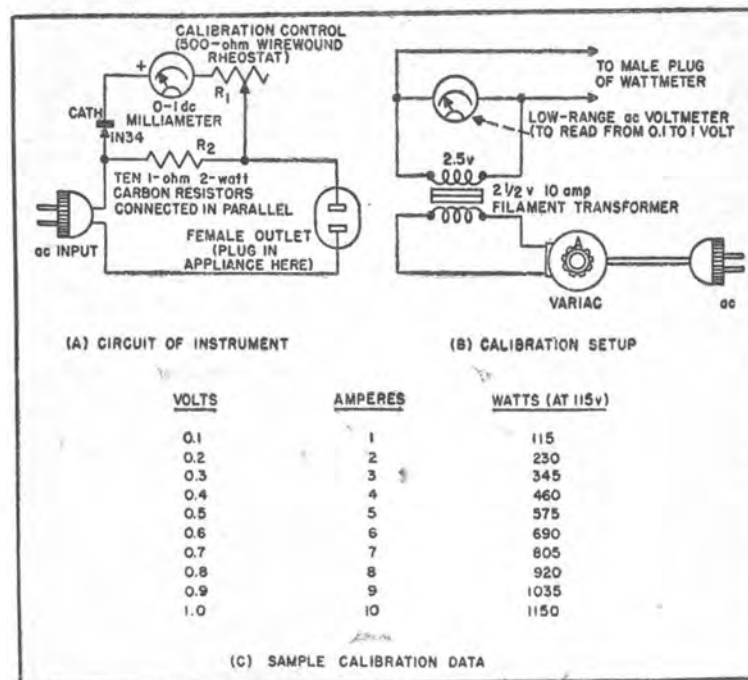

Figure 41. AC Ammeter-Wattmeter for Appliance Testing.
ELECTRICAL repairmen will find the crystal meter circuit shown in Figure 41(A) useful for checking the amperes and watts drawn by electrical appliances such as motors, heaters, lamps, irons, etc. This instrument is as easy to use as a voltmeter.
The reader must calibrate his own instrument, since there is considerable variation in individual crystal diode characteristics at the low voltage employed. To make the calibration, set up the test circuit shown in Figure 41(B) and take the following steps: (1) Temporarily short-circuit the terminals of the female outlet in the instrument. (2) Set the Variac dial to zero, and set the calibration control rheostat R_1 to its maximum-resistance position. (3) Connect the calibration circuit to the wattmeter and advance the Variac dial carefully until the calibrating ac voltmeter reads exactly 1 volt. (4) Adjust rheostat R_1 to bring the milliammeter reading exactly to 1 milliamper (full scale). Do not disturb the setting of this rheostat at any future time unless a recalibration is being made. (5) Reduce the Variac until the ac voltmeter reads 0.9 volt. Record the milliammeter reading at this point as corresponding to 9 amperes, or inscribe 9 on the meter scale directly above the pointer position. (6) Reduce the Variac to obtain a voltmeter reading of 0.8 v and
record this value (or mark it on the meter scale) as 8 amperes. (7) Repeat the procedure at each lower 0.1-volt step, as listed in the Table in Figure 41(C) until all values down to 0.1 volt have been covered. The corresponding ampere values are shown in the second column in the Table. The meter now is calibrated to read amperes between 1 and 10. Values between zero and 1 may be estimated. Remove the short-circuit from the female outlet, and disconnect the calibrating apparatus.